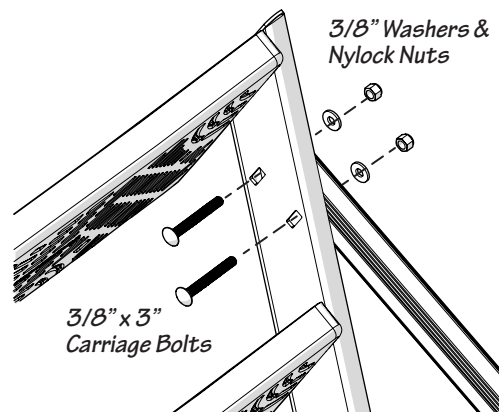

Fig. 8-4
- The second worker installs two 3/8" x 3" carriage bolts from the inside of the Nauti Steps (see Figure 8-4). Add a 3/8" washer and Nylock nut to each bolt end. Fully tighten the nuts and bolts for the lower end of the Nauti Steps.